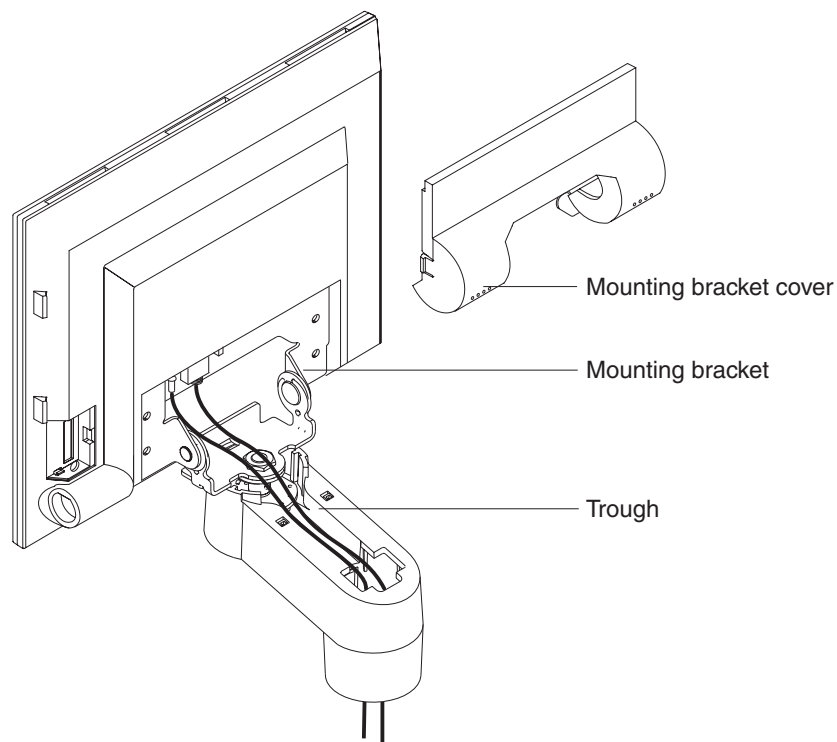

Figure 2-20. Routing the cables
3. Separately route these cables up through the base of the integrated pedestal. See Figure 2-20.